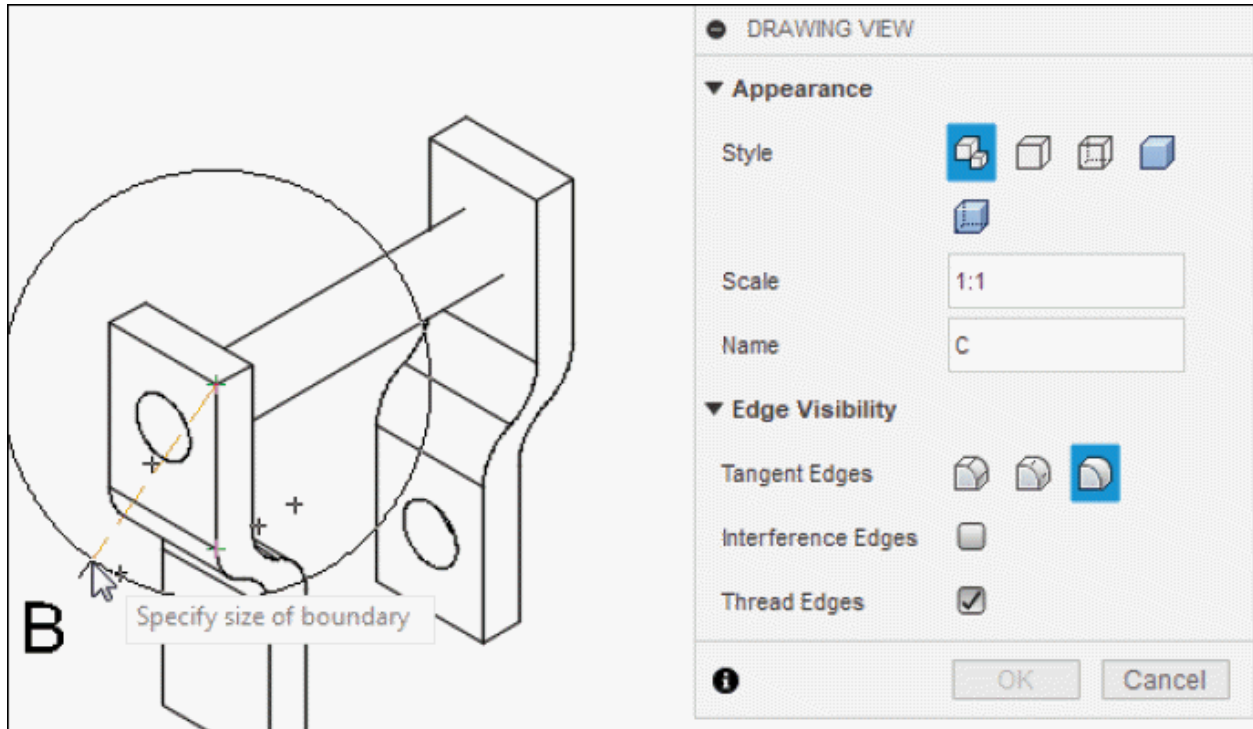

Figure-21. Creating boundary
- Create the boundary on parent view as required; refer to Figure-21.